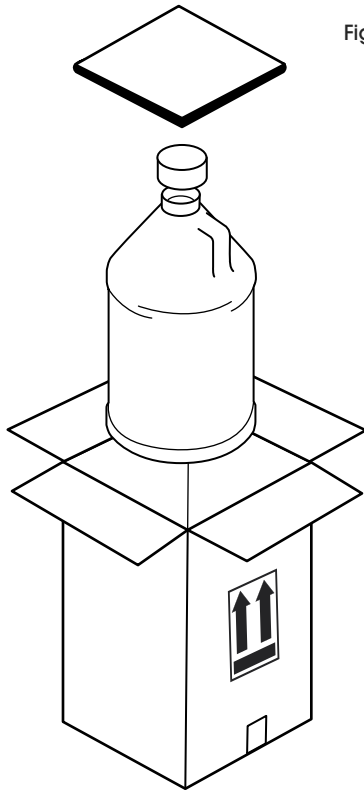

Figure 1
5. Place jug into carton - bottom first. (See Figure 1)
6. Place the top pad insert on top of the filled bottle. The insert should fit nicely into the box. (See Figure 1)